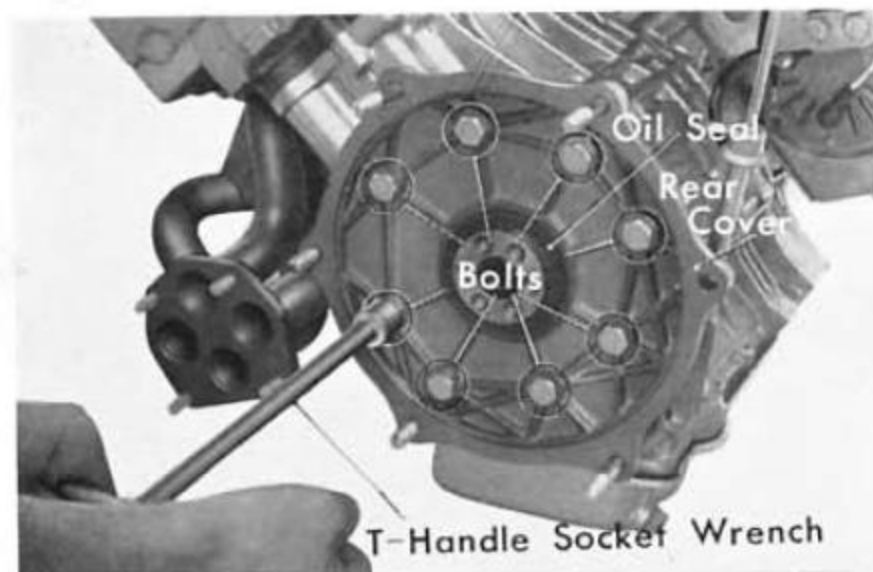

Fig. 1I-1
2. Remove the rear cover setting bolts and detach the rear cover from the engine (Fig. 1I-1).